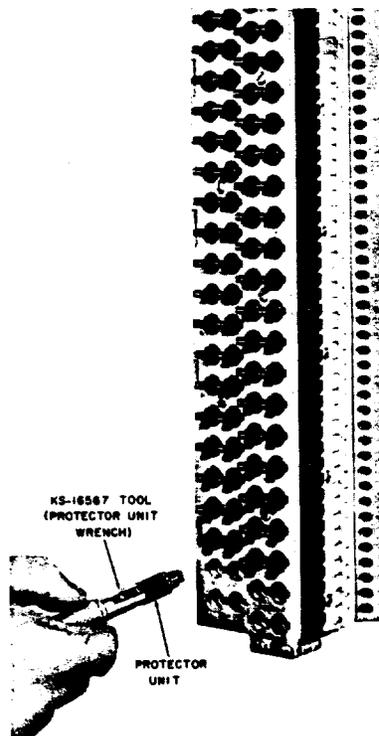

Figure 28. KS-16567 Protector Unit Wrench
3.10 The KS-16567 protector unit wrench (Comcode 400280087, Figure 28) is used for insertion and removal of 1A-type protector units on the 300-type connectors. The wrench is cylindrical shaped aluminum, approximately 4-1/2 inches (114 mm) long, with a knurled handle.